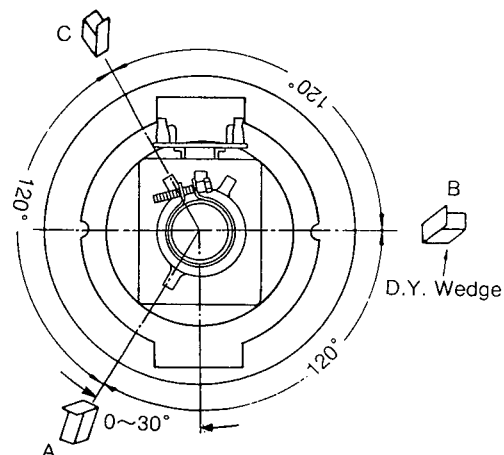

Figure 18
6. Secure the deflection yoke by reinserting the wedges. (See figure 18.)
1. Wedge A shown in figure 18 should be fixed within a range of $0^\circ \sim 30^\circ$ to the left of the vertical line as shown.